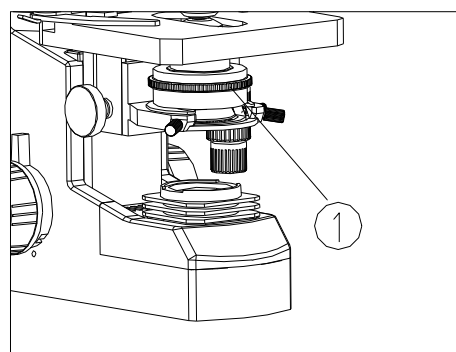

Fig. 20
3.2.4 Condenser Adjustment (Fig.20)
3.2.5 Aperture Iris Diaphragm Adjustment (Fig.20)